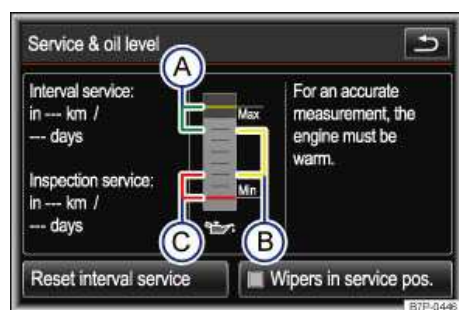
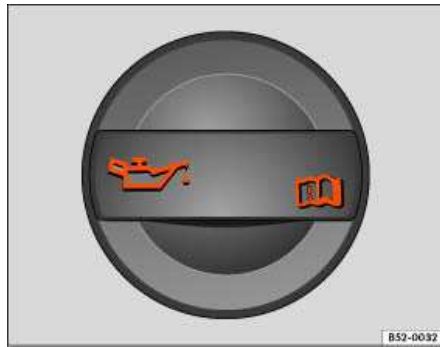

Fig. 316 Infotainment System: Engine oil level display.
Fig. 317 In the engine compartment: Engine oil filler cap.
3. The vehicle has **no** engine oil dipstick under the engine compartment. The current engine oil level can be viewed through the Infotainment screen by following these steps ⇒ fig. 316:
4. Required steps after reading the engine oil level ⇒ fig. 316:
- (A): **Do not** add any oil ⇒ ⚠. Continue with step 12.
- (B): Oil may be added (about 1 pint / 0.5 liter). Continue with step 6 to step 12.
- (C): **You must** add oil (about 1 quart / 1.0 liter). Continue with step 6 to step 12.
6. The engine oil filler opening can be identified by the ⚙ symbol on its cap ⇒ fig. 317. If you are not sure where it is, contact your authorized Volkswagen dealer or authorized Volkswagen Service Facility.
7. Remove the cap on the engine oil filler opening ⇒ fig. 317.
10. Recheck the engine oil level through the Infotainment screen, after adding oil, the level must at least be in the center of the ⇒ fig. 316 \(B\) area, but never above (A) ⇒ ⚠. Never add too much oil.
⇒ fig. 316	Required action according to the respective engine oil level: